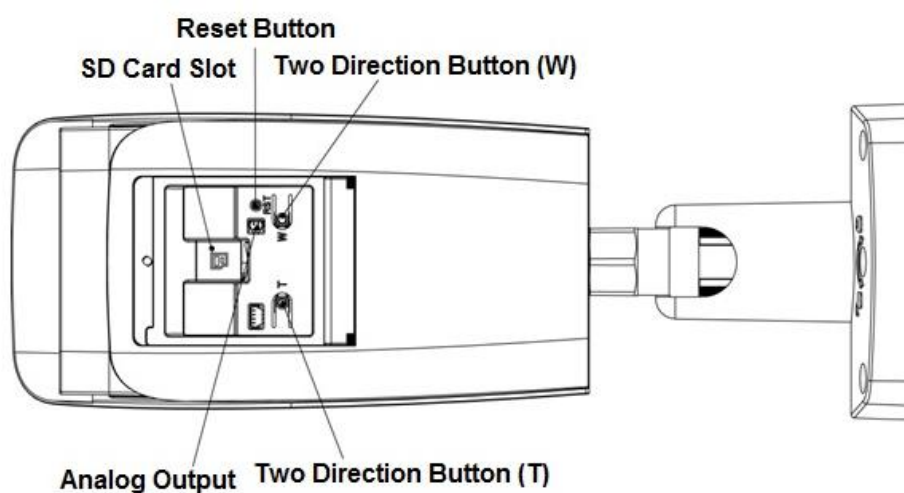

Figure 2-2
- Insert the SD card into the slot which is shown in Figure 2-2, you can press the SD card slightly to insert it because the card slot is elastic.